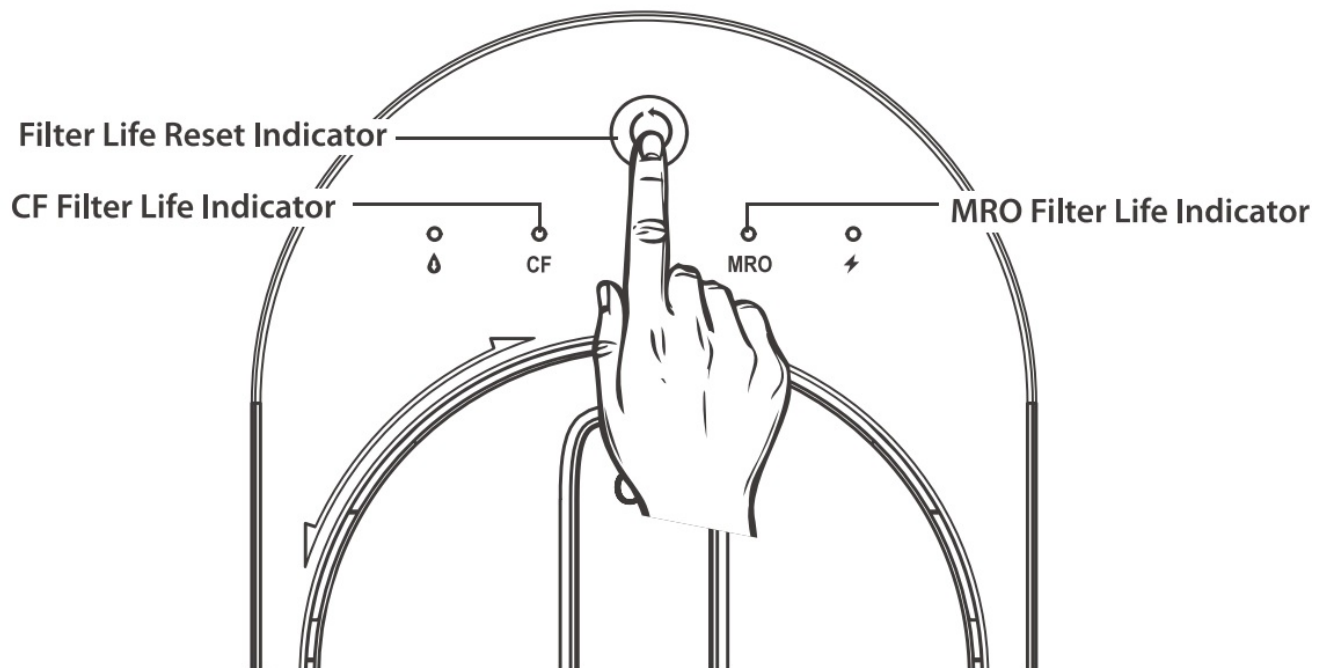

Figure 14
- Hold the filter life reset button for 5 seconds (Figure 14). Release the button when you hear a beep. Now the filters are ready to be reset.